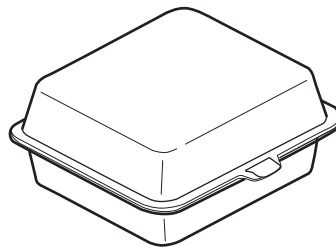

Fig. 3
- 4 Fig. 3 shows a food container made from expanded polystyrene.